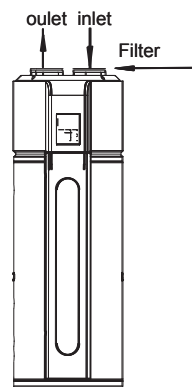

Fig.3-8
- 5) Filter installing at the unit inlet. In terms of the unit with duct, filter in there must be put on the position of duct inlet. (Fig.3-8/3-9)